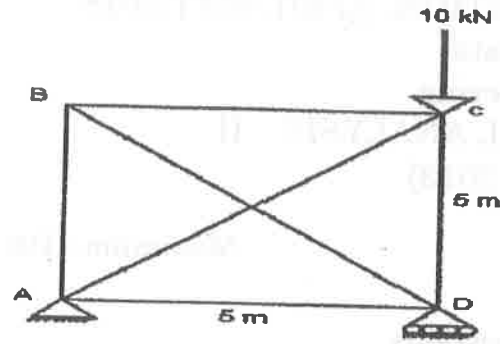

Fig.2
11. a) Analyse the truss shown in Fig.2 by flexibility approach. AE is Constant for all members.